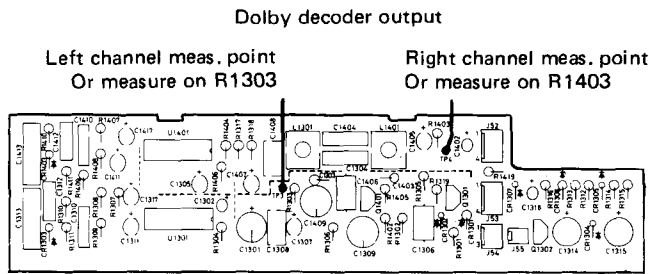

Figure 2 Dolby decoder measurement points
- Move the measure probe to the Dolby decoder output, see Figure 2.
- Connect a voltmeter to each channel of the Dolby decoder output shown in Figure 2.